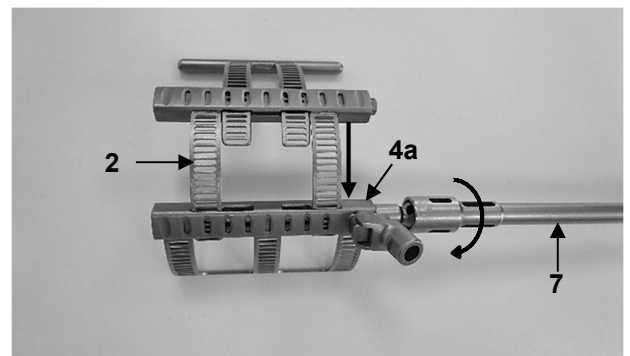

Fig. 5
First fully retract the primary element (2) using the LMT-4 cardan screwdriver (7). To do this, turn the outer hexagon screw on the cage module of the basic element (4a) counter-clockwise using the LMT-4 cardan screwdriver (7) (Fig. 5).